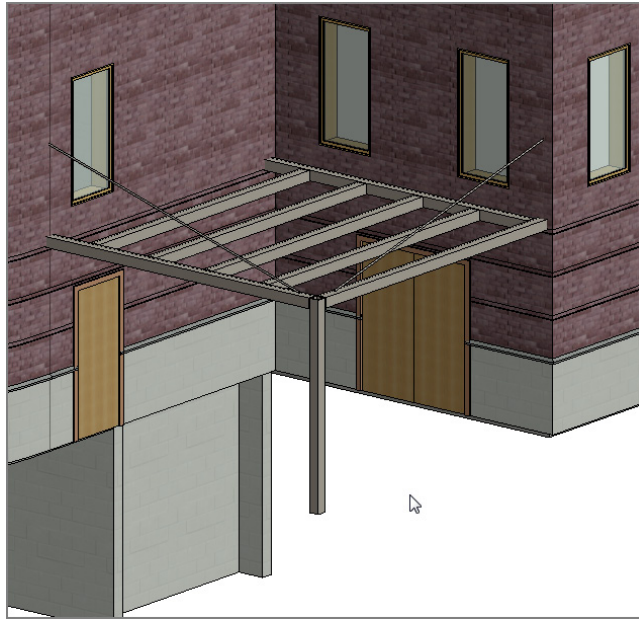

FIGURE 8.49: Isometric of the bracing
20. See Figure 8.49 to compare your rods to those in the book.